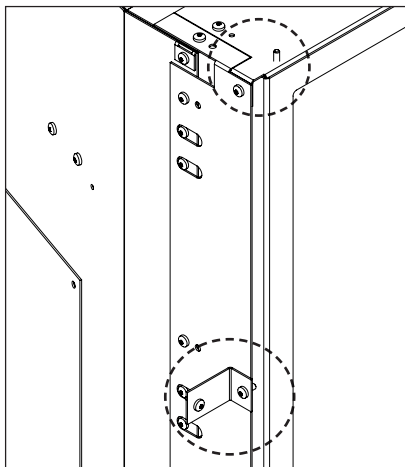

Figure 45: Panel Bracket Installed and Pin Location
1. Using the supplied hardware install a Trimmable Panel Bracket, on its short leg, onto each side of the stove using a T-20 Torx screwdriver. See Figure 45 for the screw location and bracket orientation.
2. Install the Trimmable Panel, **WITH THE FLANGES FACING OUT**, onto the Side Extensions and in front of the Panel Brackets by hooking the Panel's top flange onto the alignment pins on top of the Top Extension (See Figure 45).